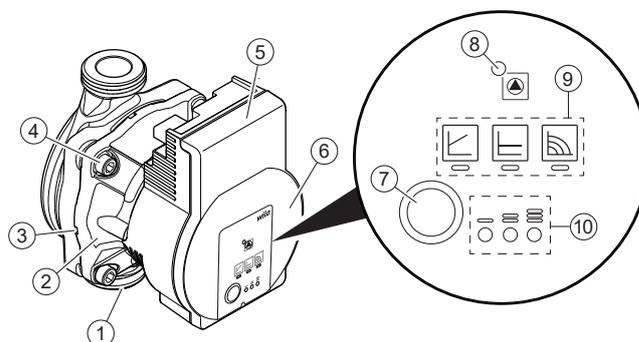

Figure A1-1: Pump components and control panel
- Run/Fault signal LED (item 8, Figure A1-1)
- Control mode display LEDs (item 9, Figure A1-1)
- Pump curve display LEDs (item 10, Figure A1-1)
**Operating button - Green** (item 7, Figure A1-1)
The Run/Fault signal LED (item 8, Figure A1-1) will indicate if there is a fault with the pump and can assist in diagnosing and rectifying that fault as detailed in Table A1-3 below: